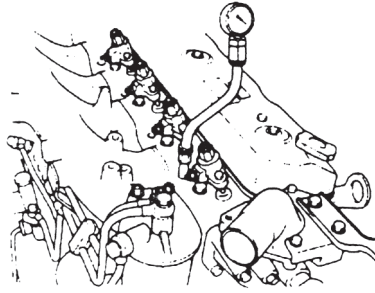

Fig. 1.18
1.3.9 Measurement of the compression pressure (See Fig.1.18)